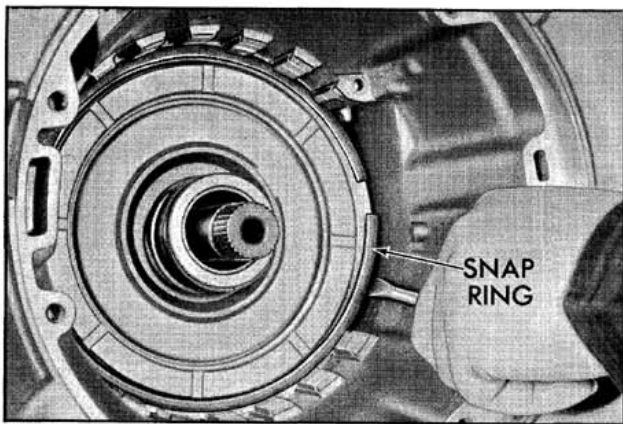

Fig. 6-73 Removing Snap Ring
14. Remove the center support to case retaining snap ring. (Fig. 6-73)